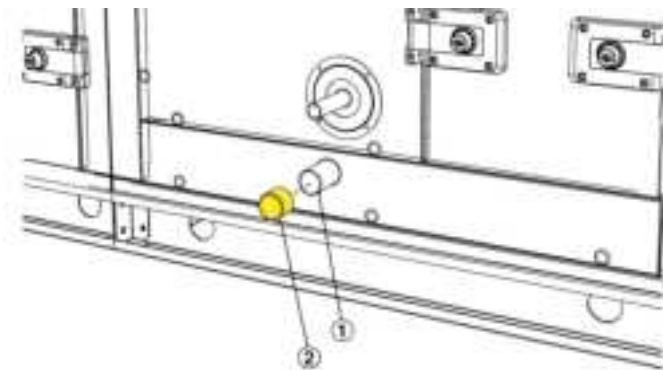

Fig. 29: Condensate drain
2. ▶ Remove the protective cap (Fig. 29 /2) from each drain (Fig. 29 /1) of the condensate drip tray.
4. ▶ Connect a drain trap to each condensate drain (Fig. 29 /1).